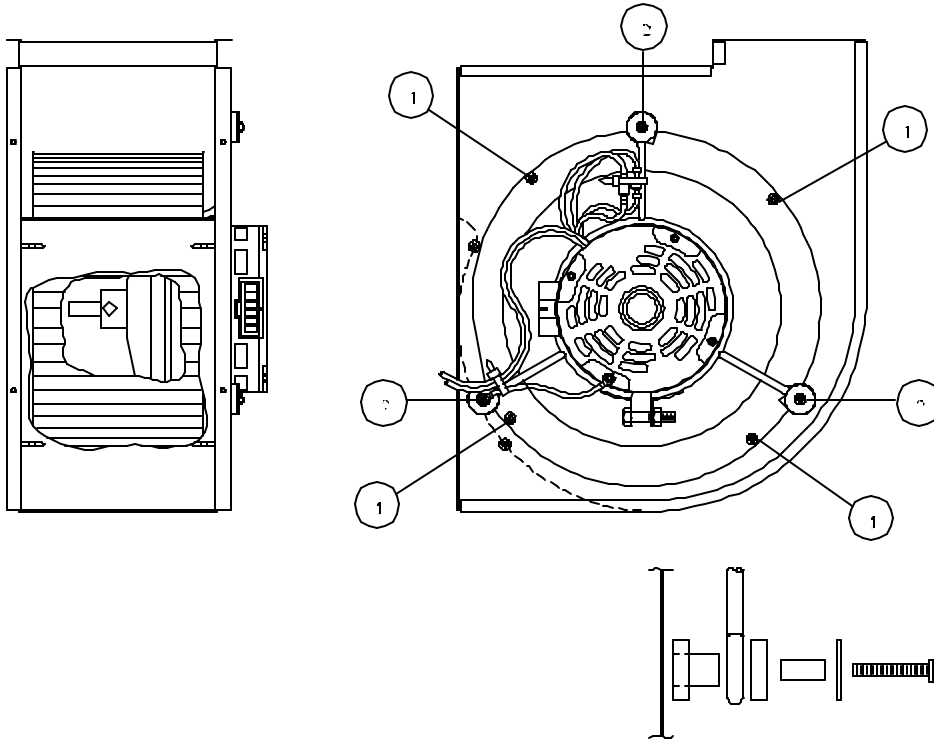

FIGURE 5
4. Remove four (4) screws from venturi ring. See Figure 5, #1.
5. Remove three (3) screws from motor mount bracket. See Figure 5, #2.